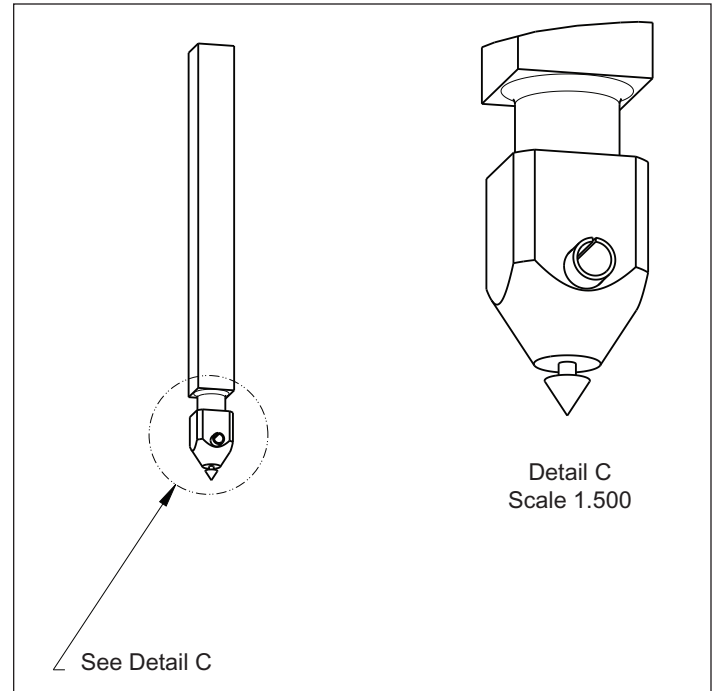

Figure 7. Shaft and Handle.
7. After the door has been drilled and the shaft and handle interaction have been verified, it is suggested to remove the point from the end of the shaft (see Figure 7).